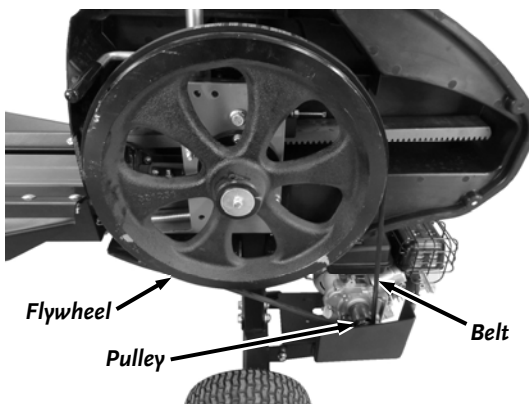

Figure 31
5. Pivot the Mount up slightly and remove the Belt (**Figure 31**).
6. Install the new Belt and adjust tension as needed (**Figure 31**).